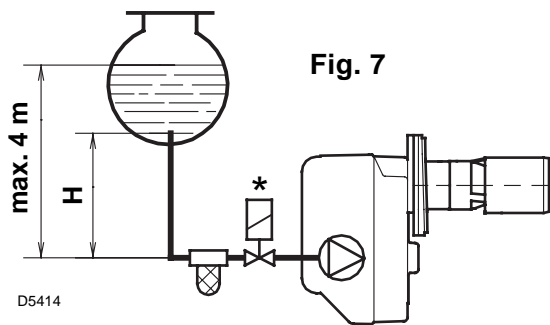
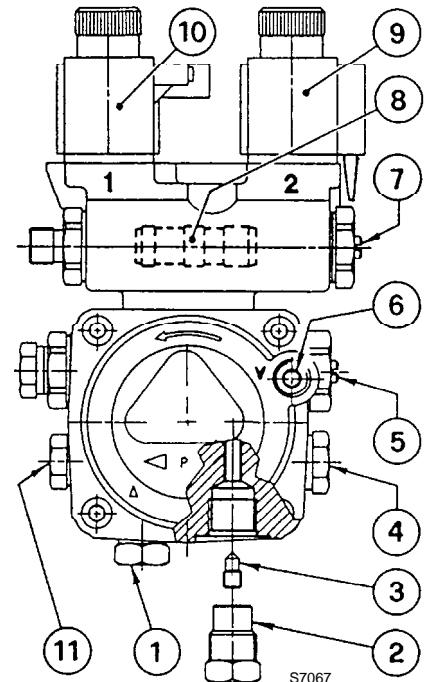

Fig. 7
Fig. 8
- The pump is designed to allow working with two pipes. In order to obtain one pipe working it is necessary to unscrew the return nut (2), remove the by-pass screw (3) and then screw again the nut (2), (see fig. 8).
On the system in fig. 7 it is sufficient to loosen the suction gauge connection (6, fig. 8) and wait until oil flows out.